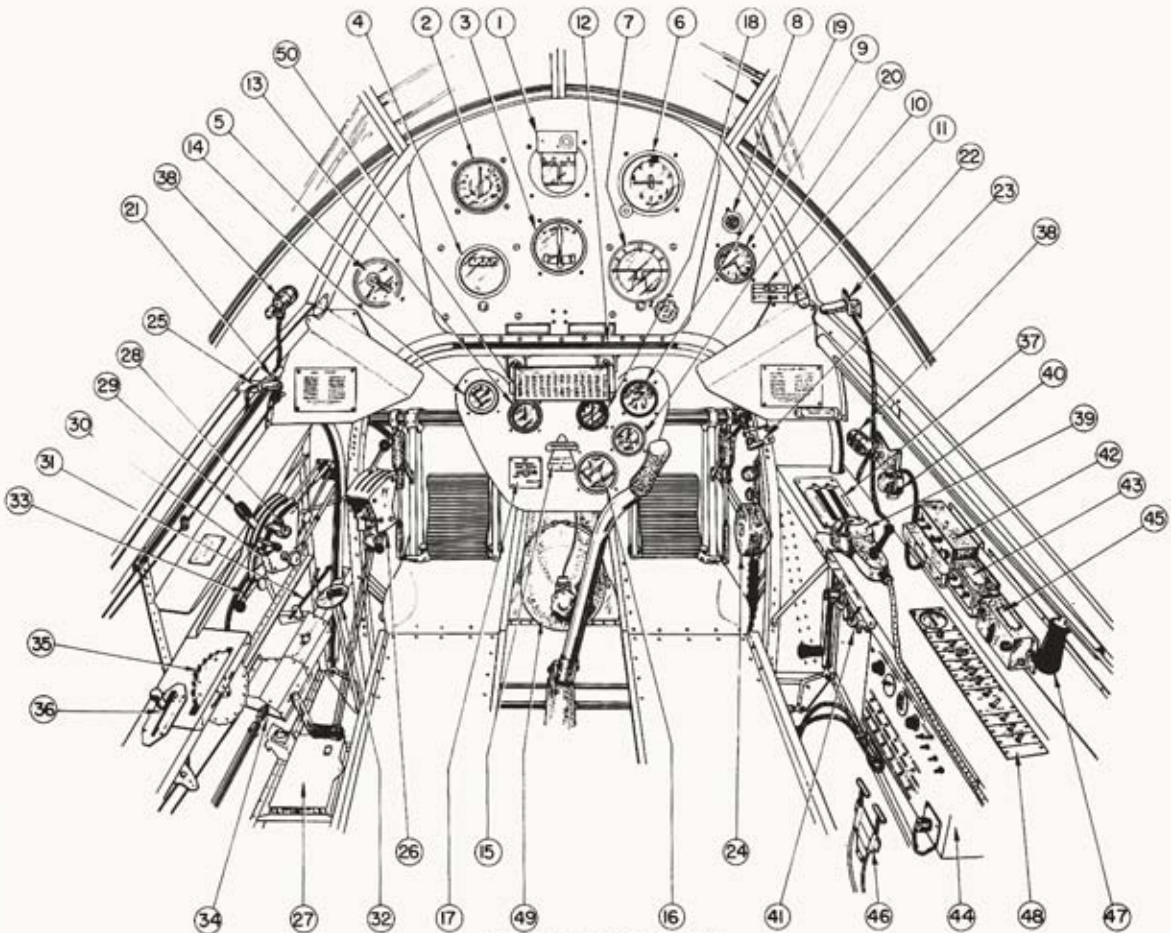

Figure 3.—Pilot's cockpit.
(1) Airplanes Serial No. 36935 to 37034, inclusive, 32637 to 32739, inclusive, and 32741 to 32786, inclusive, are equipped as follows: (See Figures 3 and 4.)
**Index to Figure 3—Pilot's Cockpit**
All radio equipment shown in Figure 3 is installed in J2F-6 Airplanes No. 36935 to 37034, inclusive, 32637 to 32739, inclusive, and 32741 to 32786, inclusive.